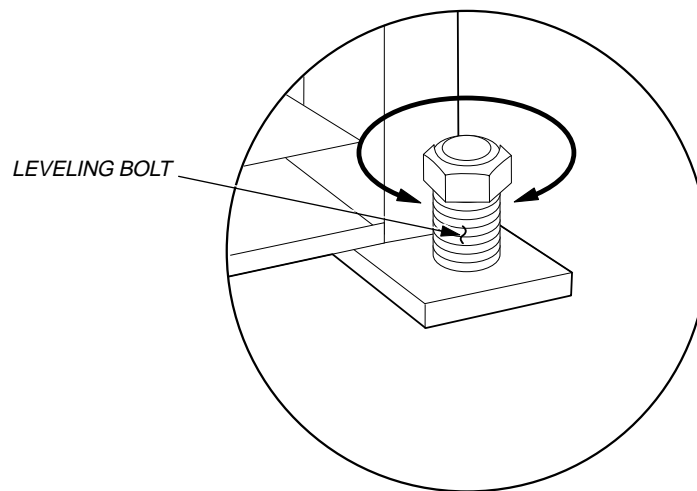

Figure 4-4 Leveling Bolts
1. Level the component by adjusting leveling bolts (see Figure 4-4).